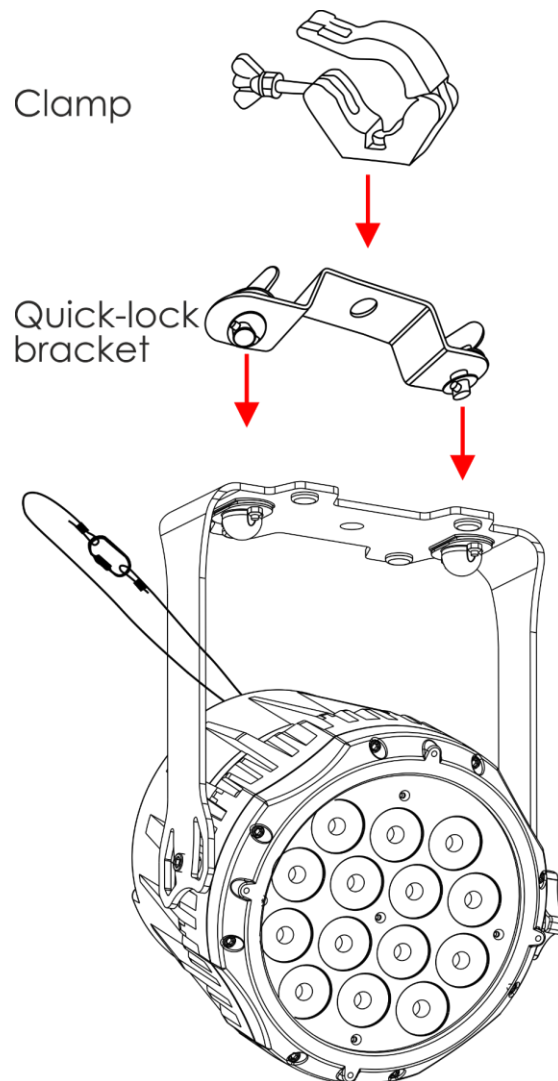

Fig. 05
- 01) Use a clamp to attach the device to the supporting structure, as shown in Fig. 05. Make sure that the device cannot move freely.
- 02) Secure the device with a secondary suspension, for example a safety cable. Make sure that the secondary suspension can hold 10 times the weight of the device. If possible, the secondary suspension should be attached to a supporting structure independent of the primary suspension. Put the safety cable through the **safety eye (07)**, as shown in Fig. 05.